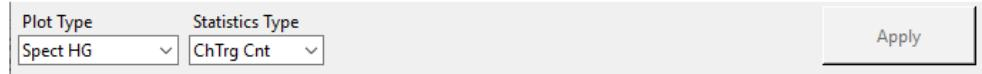

Fig. 10.23: The Command bar with the "Spect HG" option selected for the "PlotType" parameter.
- Click on the "Plot Type" parameter on the Command bar in the top part of the Janus GUI (see Fig. 10.23) and select "Spect HG" or "Spect LG" in order to visualize the pulse height spectra from the HG or LG amplification chain in the *gnuplot* window.